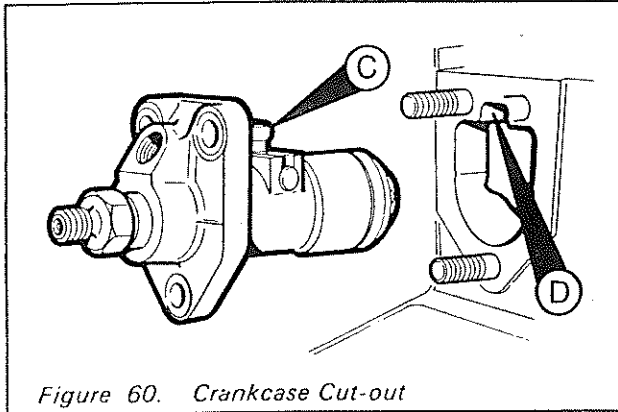

Figure 60. Crankcase Cut-out
7. Refer to Figure 60 on page 50 and align the fuel pump rack ball (C) with the cut-out (D)